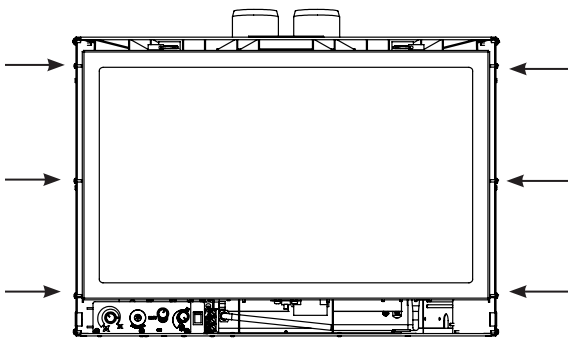

Figure 42: Screw Installation Locations.
1. Install the two Trimmable Panel brackets onto the E30 unit using a T-20 Torx screwdriver. See Figures 42 and 43 for the screw installation locations. There are three sets of hole patterns on the brackets depending on which Surround Panel is being installed. See Figures 42-46.